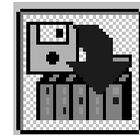

Figure 1. TCM Configure Menu's Software Download Option
3. Select the **Software Download** option from the Configure Menu (see Figure 1), **OR**